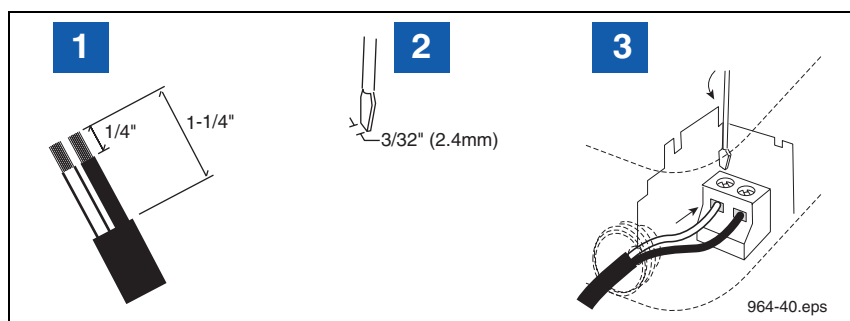

Figure 4. Connecting Wiring to Device Terminal Blocks
- d. Strip back the cable jacket and wires as shown in Figure 4.
LEGEND FOR NUMBERED BOXES IN Figure 4
| <ol style="list-style-type: none"> 1. Connect the shield of the RS-485 cable to the ground lug. 2. Cord grip 3. RS-485 cable to Receiver 4. Power side 5. Intrinsically-safe side 6. NOTE: Attach one end of RS-485 cable to the RS-485 terminals in the TLS RF and other end to the RS-485 terminals in the Receiver. One twisted pair connects to terminals - and + (RS-485 signals) and the second twisted pair connects to terminals +15 and G (Receiver power). | <ol style="list-style-type: none"> 7. Connect each of the four wires to the same terminals in the Receiver (ref. Figure 32). <p>NOTE: see Figure 4 for wire connection tips.</p> <p>NOTE: In sites with more than one TLS RF, the Receiver is only connected to the master TLS RF.</p> |